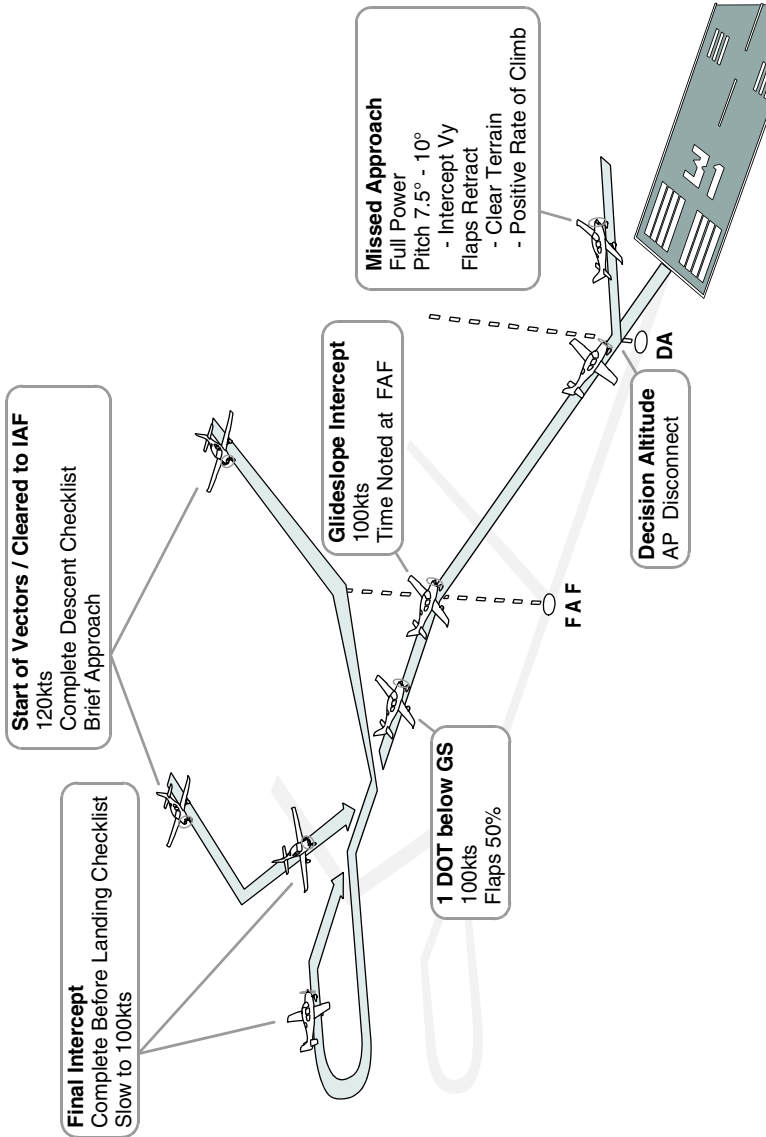

Figure 3-3
**Procedure - Precision Approach (See Figure 3-3)**